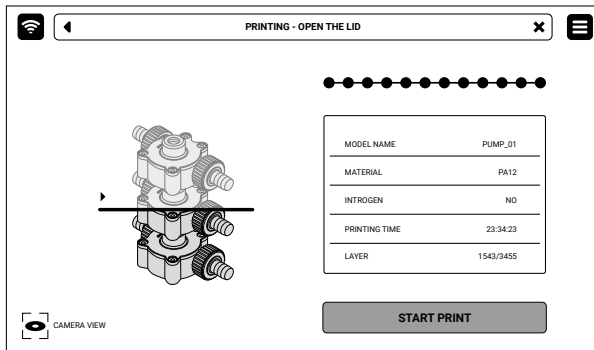
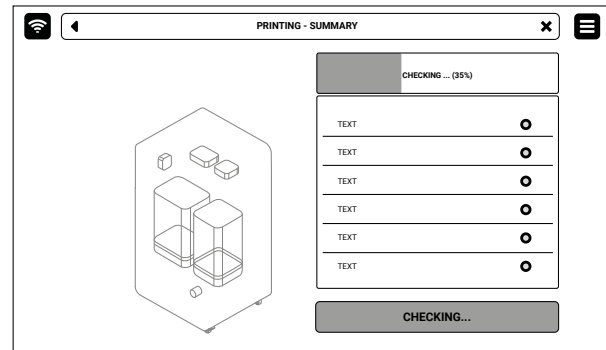

Fig. 6.12 **START PRINT** screen.
Fig. 6.13 **SELF-CHECK** screen before printing.
2. Press **START PRINT** (fig. 6.12). Before printing, an automatic component check will be performed (fig. 6.13)